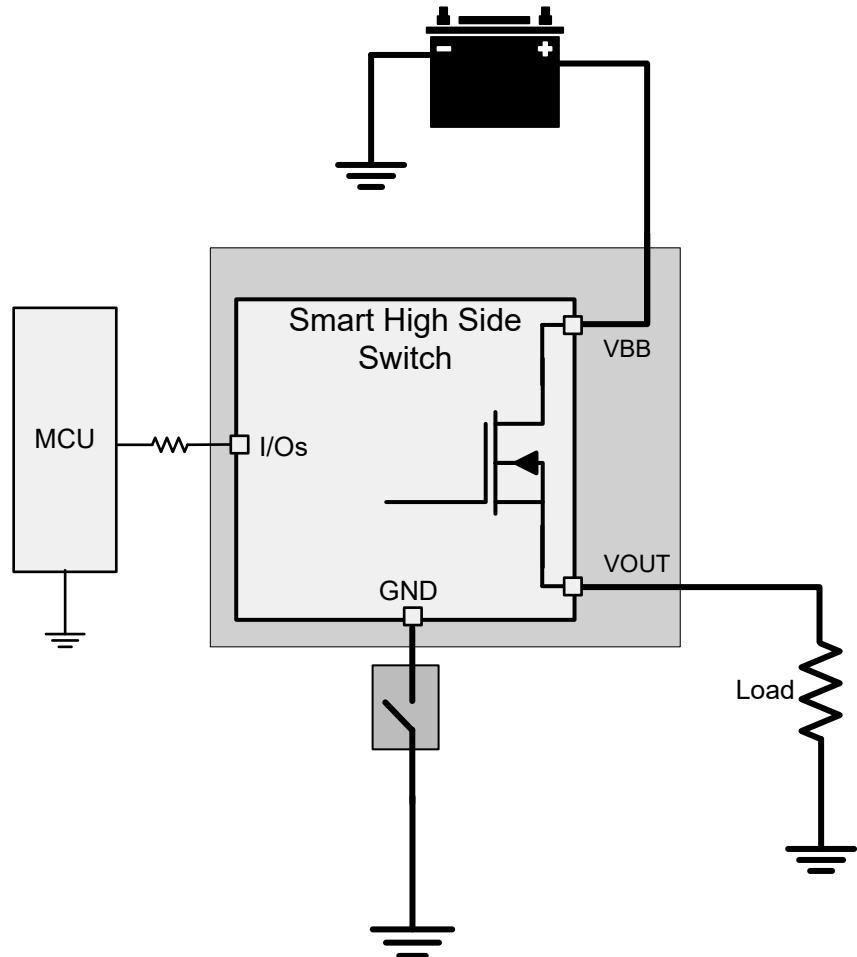

Figure 8-40. Loss of Device GND
**Case 1 (loss of device GND):** loss of GND protection is active when the thermal pad (Tab), IC\_GND, and current limit ground are one trace connected to the system ground, as shown in Figure 8-40.